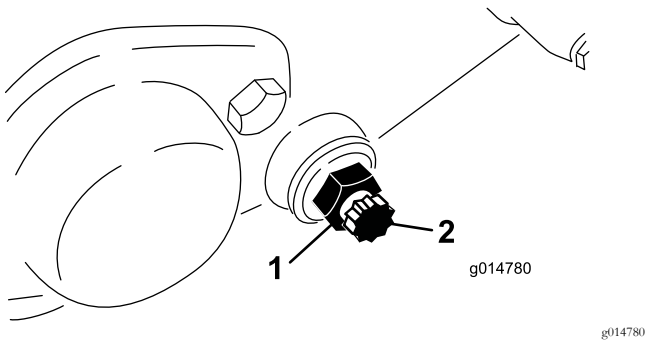

Figure 56
- At each side of the machine, loosen the jam nut securing the bedbar bolt (Figure 56).
- Remove each bedbar bolt allowing the bedbar to be pulled downward and removed from the machine. Save the 2 nylon and 2 stamped steel washers on each end of the bedbar (Figure 56).